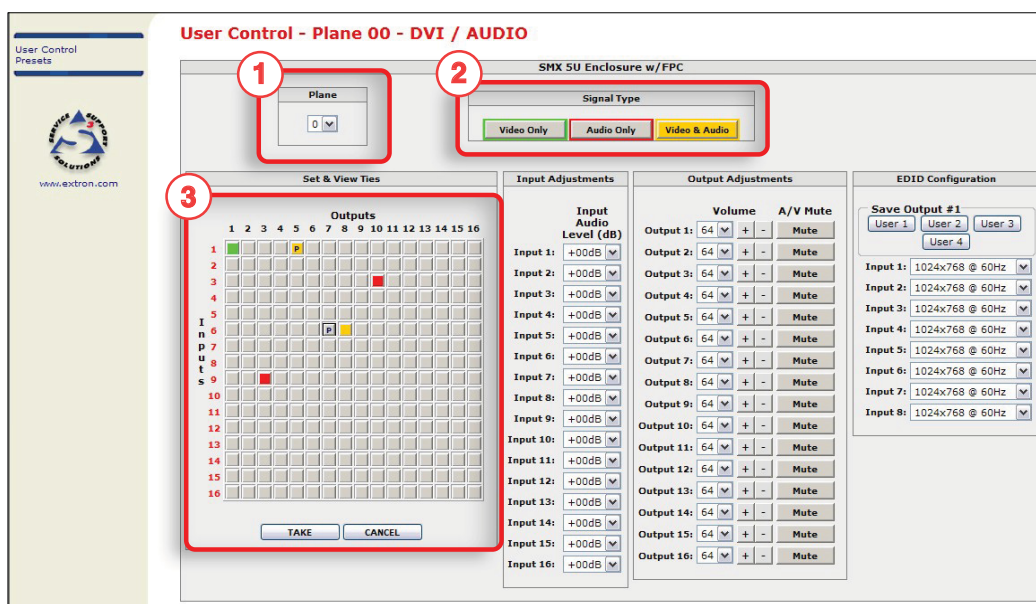

Figure 6-13 — Control pages — User Control page
The User Control page emulates some of the front panel features and displays the current input-to-output ties, input audio level, output volume, A/V mute status, and current EDID settings (see figure 6-13). See chapter 3, "Operation and Setup," for descriptions of the settings on this page.
1. Select the desired plane from the drop down box (see figure 6-13).
NOTE When viewing the ties on the User Control page, video ties are shown green, audio ties are red, and video and audio ties amber (see figure 6-13).
3. Click the desired input/output button in the Set & View Ties map. The button changes color according to signal type and indicates a provisional tie with a letter "P" (see figure 6-13, input #6, output #7, for example).
3. Click the input/output button of the tie to be removed. The button changes color and indicates a provisional tie with a letter "P" (see figure 6-13).
If a single signal tie (video or audio) is removed, or a combined signal (when the video & audio signal type button is highlighted), the button turns gray (see figure 6-13, input #6, output #7, for example, video and audio tie provisionally removed).